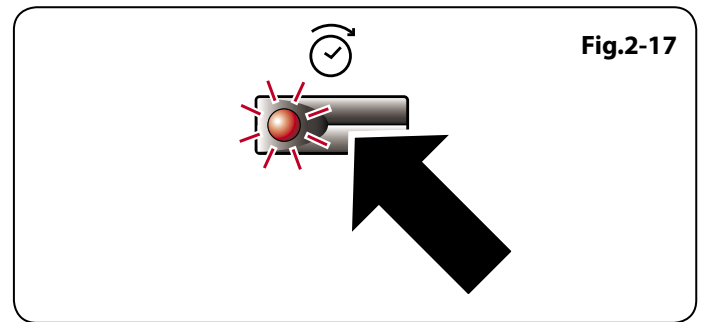

Fig.2-17
3. Immediately press the Delayed Start button (**Fig.2-17**), the delayed start indicator illuminates; the time remaining indicator (**Fig.2-18**) changes to '1'.